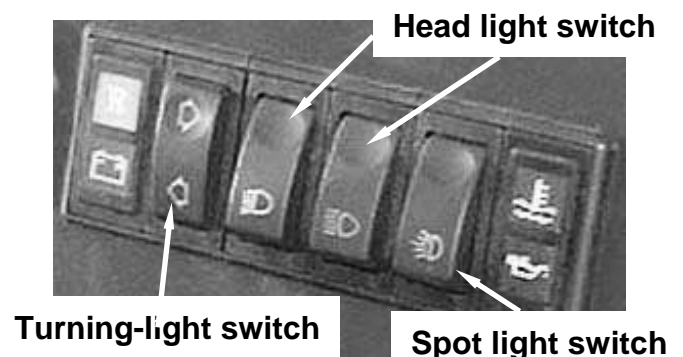

FIGURE 5
7) **Turning-light switch:** control the turning- light. Press the top of button down and the right turning light work; Press the bottom of button down and the left turning light work; Set the button in neutral while moving in line. (See figure 5)
8) **Head light switch:** control the headlight far beam or lower beam. Press the lower-beam button down and the head light work as lower beam, the far-beam button and work as far beam. (See figure 5)